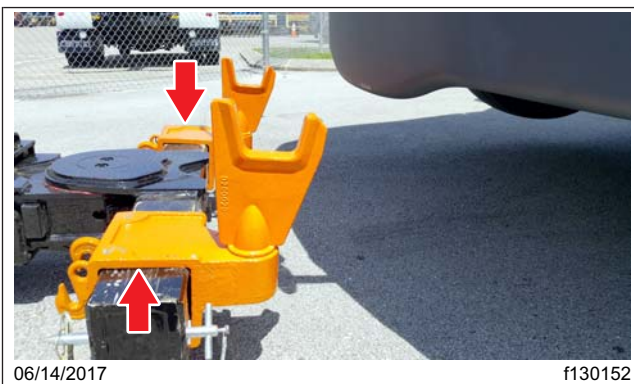

Fig. 13.8, Lift Adaptors Installed on the Crossbar
8. Use mid-rise or high-rise forks, or lift adaptors (part number 0200020) on the crossbar to provide clearance for the aerodynamic bumper. See Fig. 13.8 and Fig. 13.9.